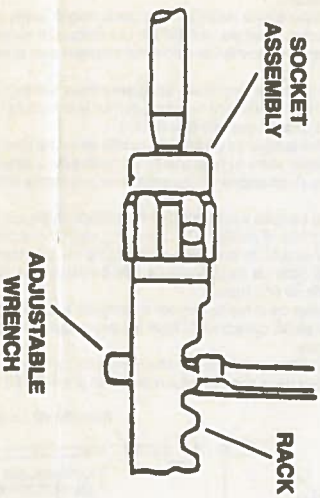

FIG. 1
9. Remove old inner tie rod assembly from rack and pinion unit by rotating the inner tie rod housing while holding the steering gear rack in position with an adjustable wrench across the rack teeth. (See fig. 1). **CAUTION:** When removing or installing inner tie rod assembly, use an adjustable wrench on the flat teeth of the rack to prevent rotation and possible damage to the steering gear. Be careful not to nick the rack teeth.
3. Install new inner tie rod assembly on rack and torque to 40-500 ft.-lbs. (54-68 N-m). Remember to hold rack with an adjustable wrench to prevent it from turning. (See Fig. 1.)